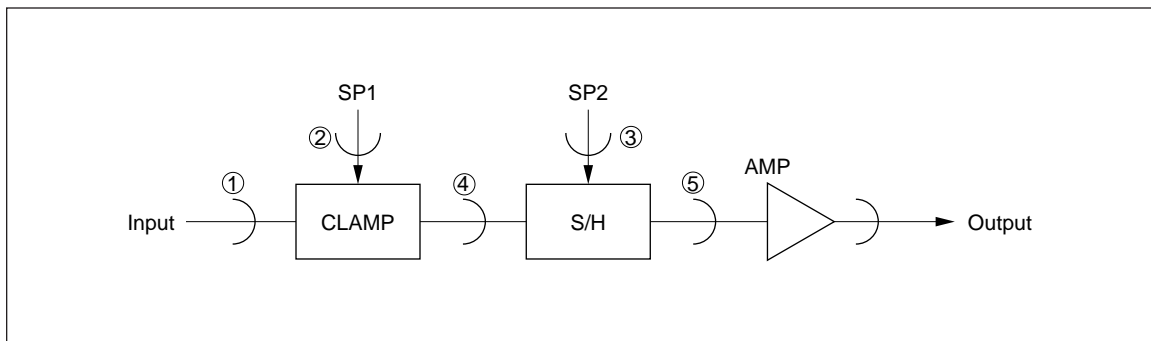

Figure 2 CDS Circuit
The CDS circuit removes the low frequency noise by first clamping the image sensor output signal noise segment (the A period signal) to a fixed voltage, and then replacing the noise segment with the signal segment by sampling and holding the signal segment (B period), which includes noise. Thus the CDS circuit generates a continuous signal, and consists of a clamping circuit, and sample and hold circuit, and inverting amplifier. (See figures 2 and 3.)
This circuit removes low frequency noise by clamping the input signal ① noise segment (A period) to a fixed voltage using the SP1 sample/hold pulse, and supplies its output signal to the sample and hold circuit. (See figures 2 and 3 ④.)
This is a circuit that samples and holds the signal segment, and uses the SP2 sample/hold pulse to sample the signal segment (B period) and replace the noise segment with the signal segment to generate a continuous signal. (See figures 2 and 3 ⑤.)